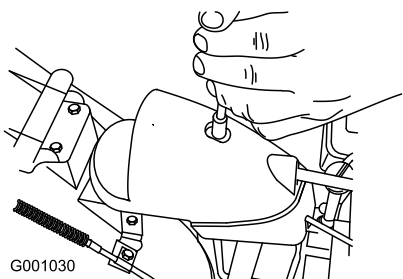

Figure 46
1. Remove the fastener on the gear cover (Figure 46), lift the front of the cover up, and slide it back and out of the way.